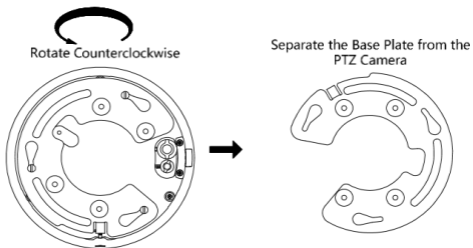

Figure 2-10 Separate the Base Plate from the PTZ camera
1. Rotate the base plate counterclockwise to separate it from the PTZ camera, as shown in Figure 2-10.